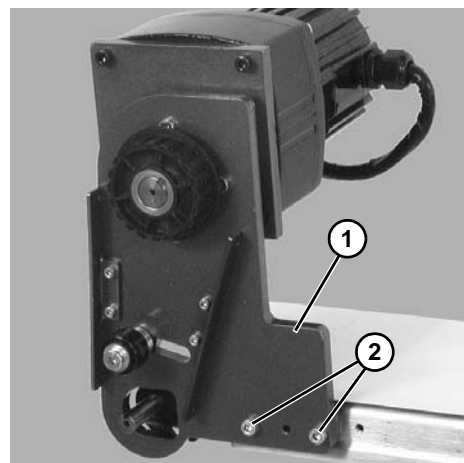

Figure 11
5. Attach mount assembly (Figure 11, item 1) with screws (Figure 11, item 2). Tighten screws to 80 in-lb (9 N-m).